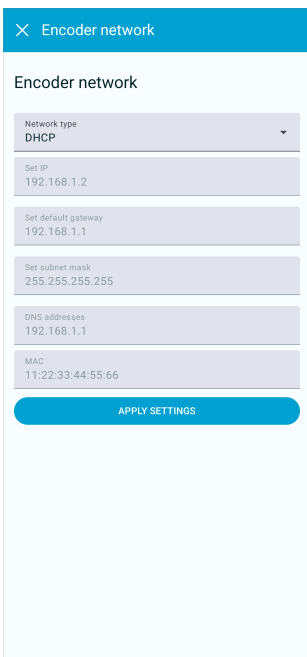

Figure 16
8. Figure 16: The network type will by default be 'DHCP'; the other parameters will show the values which the encoder got when it was connected to the network according to here.